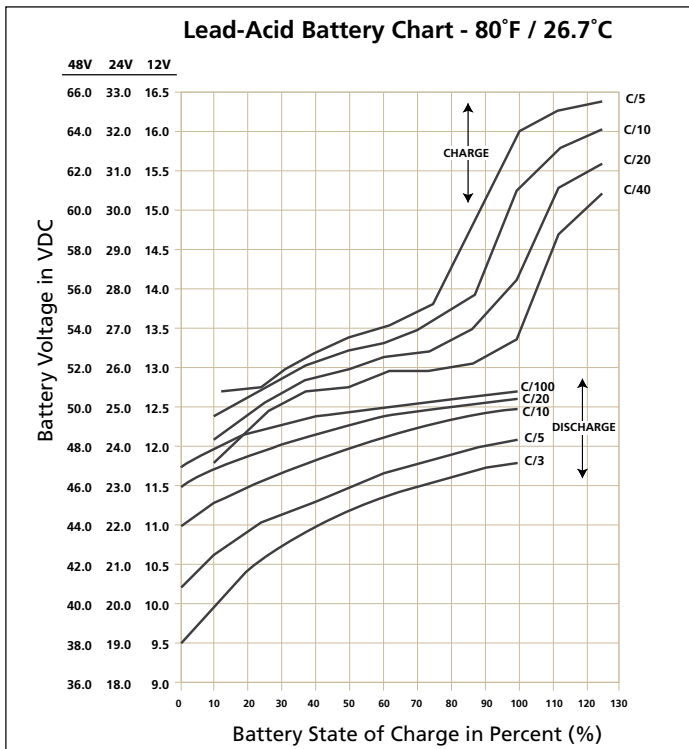

Fig. 7.1: Charging / Discharging Curves for 12V / 24V / 48V Lead Acid Batteries
Fig. 7.1 shows the charging and discharging characteristics of a typical 12V / 24V / 48 Lead Acid battery at electrolyte temperature of 80°F / 26.7°C. The curves show the % State of Charge (X-axis) versus terminal voltage (Y-axis) during charging and discharging at different C-Rates. **Please note that X-axis shows % State of Charge. % State of Discharge will be = 100% - % State of Charge.** These curves will be referred to in the subsequent explanations.
The discharge curves in Fig. 7.1 show the % State of Charge versus the terminal voltage of typical battery under different charge /discharge currents, i.e. “C-Rates” and fixed temperature of 80°F.
**NOTE:** The X-axis of Curves shown in Fig 7.1 indicates the % State of Charge. % State of Charge may be converted to % State of Discharge using formula given below:
As stated earlier, the buzzer alarm is triggered when the voltage at the DC input terminals of the inverter has dropped to around 10.5V for a 12V battery (21V for 24V battery) at C-Rate discharge current of C/5 Amps. Please note that the terminal voltage relative to a particular of State Discharge decreases with the rise in the value of the discharge current. For example, terminal voltages for a State of Discharge of 80% (State of Charge of 20%) for various discharge currents will be as given at Table 7.5 (Refer to Fig 7.1 for parameters and values shown in Table 7.5):
Inverters are normally provided with a protection to shut down the output of the inverter if the DC voltage at the input terminals of the inverter drops below a threshold of around (i) 10V for a 12V battery, (ii) 20V for 24 battery and (iii) 40V for 48V battery. Referring to the Discharge Curves given in Fig 7.1, the State of Discharge for various C-Rate discharge currents for battery voltage of 10V / 20V / 40V is as follows: